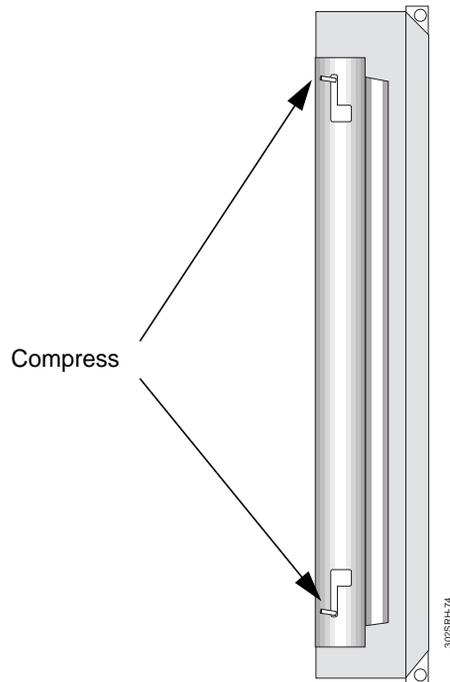

Figure 6-3: Hinge Located on RF-O! Paging Station Cabinet Door
2. On the bottom left of the door, compress the spring-loaded hinge pins until the hinge pins clear the hinge bracket (see Figure 6-3).